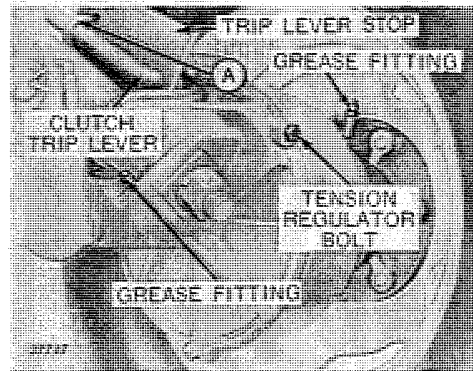

Figure 7—Clutch
Adjust the free travel of the clutch trip lever by moving the “U” bolt “A,” Figure 7, in the slot of the lever stop. The clutch trip lever should have only enough free travel to engage itself. Excessive free travel of the clutch trip lever will be indicated by a clicking noise in the clutch or by failure of the clutch to trip.
**CAUTION:** The tension bolt, Figure 7, at the front of the clutch housing regulates the tension on the spring controlling the throw-out lever. Tension is properly adjusted when clutch is assembled at the factory, but should greater tension be necessary, the bolt should be tightened by turning one or two turns clockwise. NEVER LOOSEN THIS BOLT OR THE SPRING INSIDE THE CLUTCH HOUSING MAY BECOME DISCONNECTED.